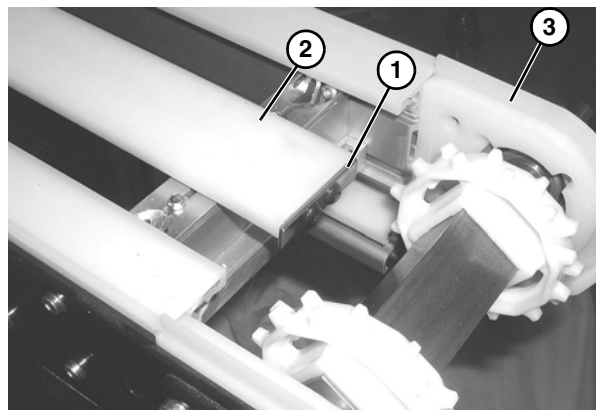

Figure 29
*The stop plate (**Figure 29, item 1**) on the center wear strip (**Figure 29, item 2**) faces the drive end (**Figure 29, item 3**) of the conveyor.*